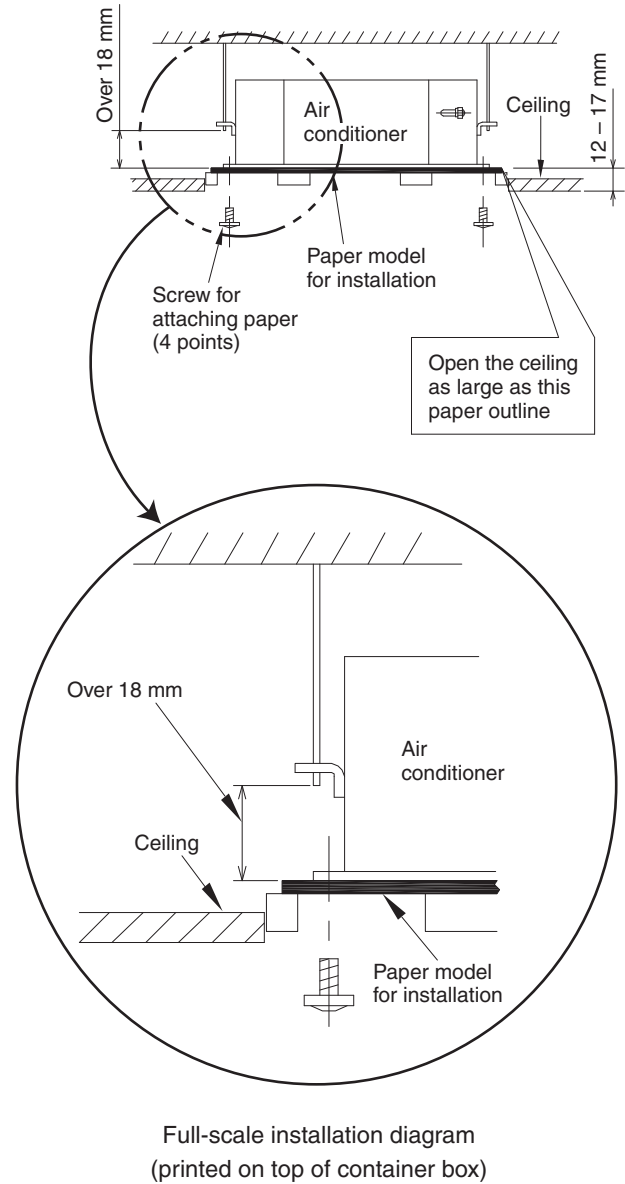

Fig. 1-10
- (1) When placing the unit inside the ceiling, determine the pitch of the suspension bolts using the supplied full-scale installation diagram. (Fig. 1-10)
- (2) The length of suspension bolts must be appropriate for a distance between the bottom of the bolt and the bottom of the unit of more than 18 mm as shown in Fig. 1-10.